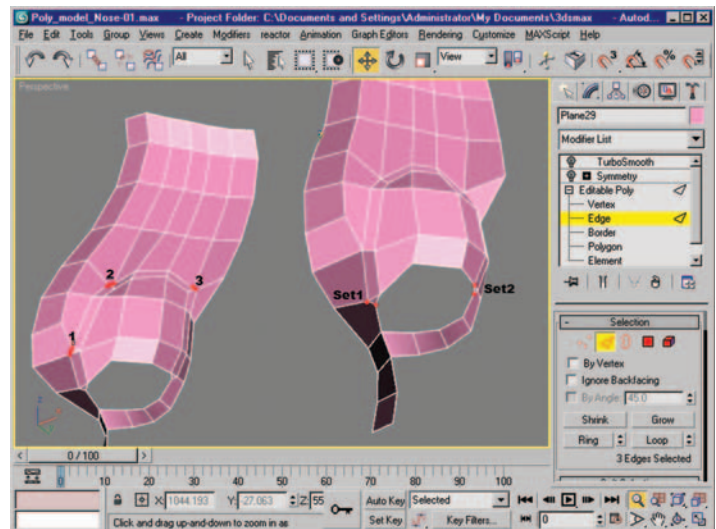

Figure 3.25 Three edges selected prior to collapsing and two sets of vertices prior to collapse.
29. Select the three edges shown in Figure 3.25, and collapse them (left mesh).
30. Next, to eliminate the two triangles on the rim of the nostril opening, use Collapse on two sets of two vertices (Figure 3.25, right mesh).